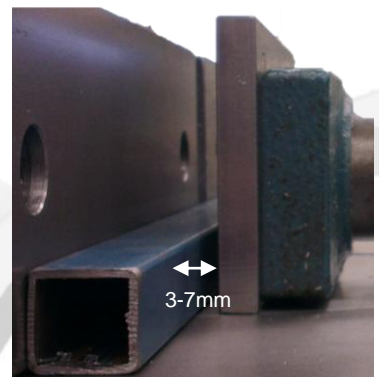

Figure 12. Clamp Setting
- iv) Place the work piece you wish to cut into the vice clamps. Manually adjust the clamps so that the jaws are clamped firmly to the work piece, or with a clearance of **3 - 7mm**, see Figure 12. (For correct clamping of material, please refer to *section 2.3 Advice for the Operator*). **NOTE** -The vice clamps advance with an approximate **10mm pneumatic stroke** to apply a clamping pressure of 6 Bar (87 psi).